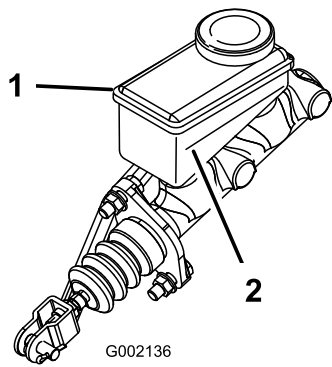

Figure 64
5. Look at the outline of the fluid level at the side of the reservoir (Figure 64).
- B. Add DOT 3 brake fluid to the reservoir until the fluid level is above the Minimum line (Figure 64).